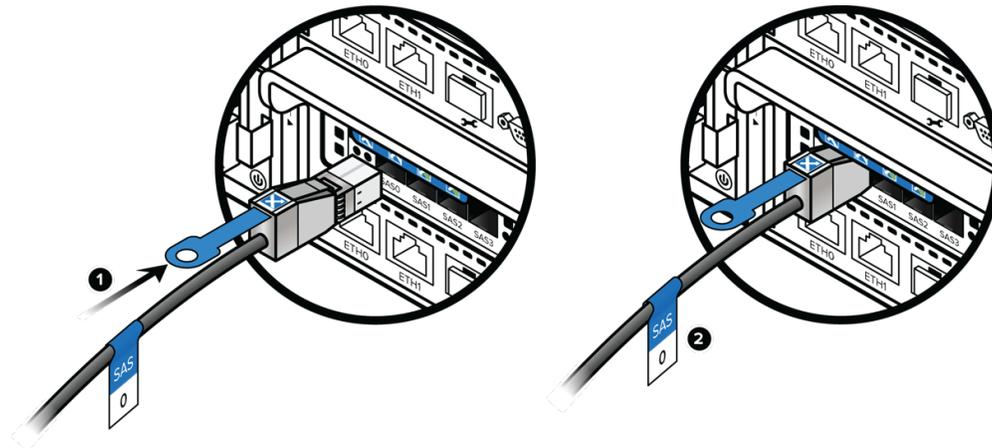

Figure 11-17. Connecting SAS Cables
2. Verify that the label on the connector matches the label of the port (see Figure 11-17).